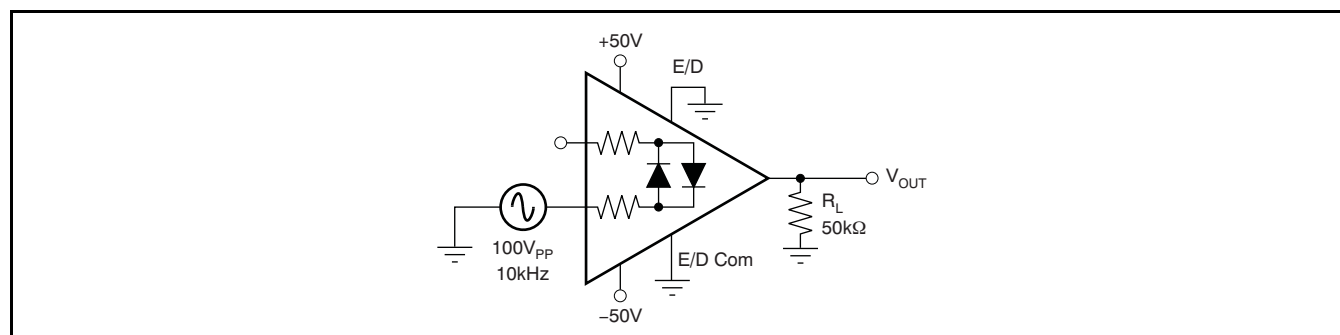

Figure 1. Feedthrough Capacitance Circuit
(11) Measured using Figure 1.
(12) 100k Ω pull-up resistor to (V+). E/D common to (V–). Status flag indicates an over temperature or over-current condition.(13) See Typical Characteristic curves for current limit behavior.